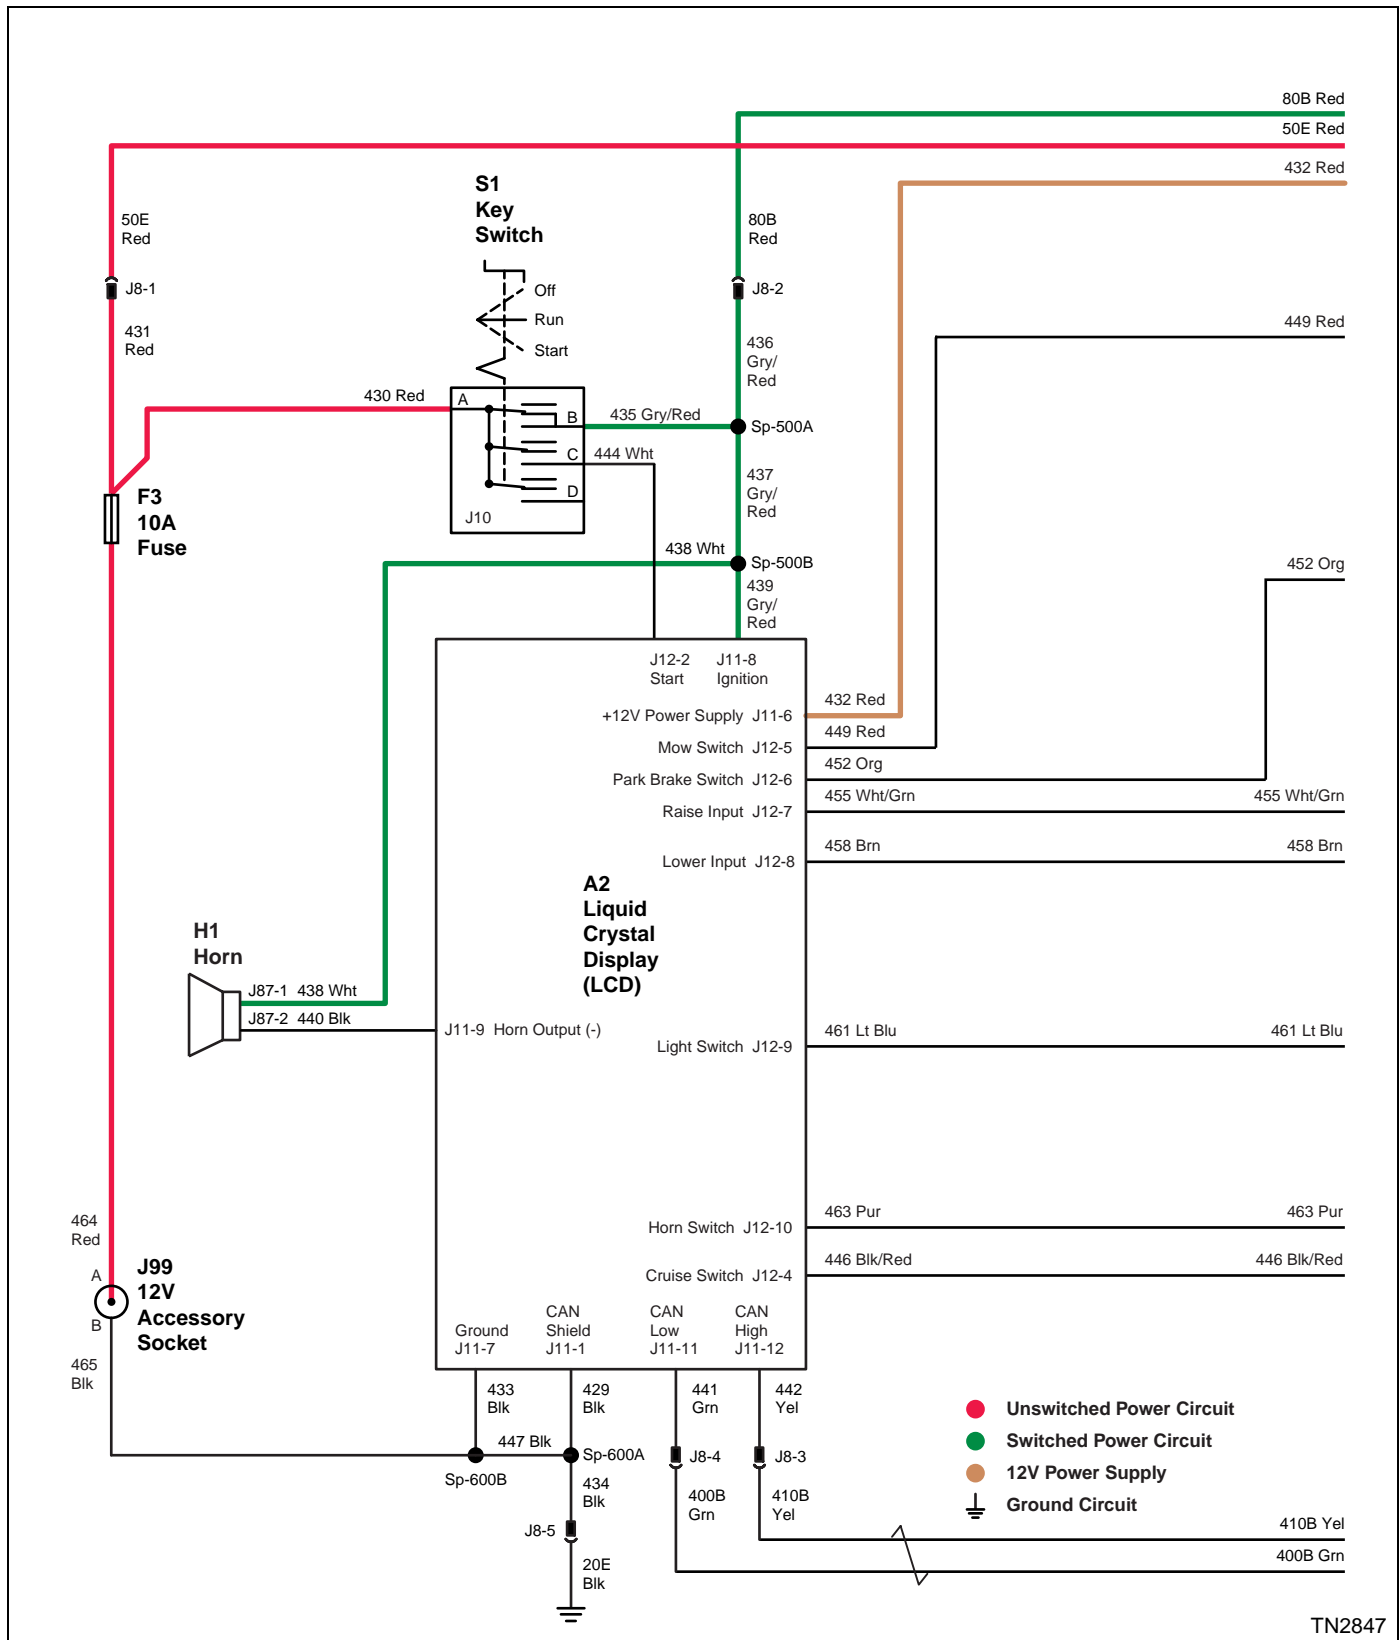

Figure 4-1
- A2—Liquid Crystal Display (LCD) (See Figure 4-1.)
- F3—10A Fuse (See Figure 4-1.)
- H1—Horn (See Figure 4-1.)
- J99—12V Accessory Socket (See Figure 4-1.)
- S1—Key Switch (See Figure 4-1.)
See Figures 4-1 through 4-5.